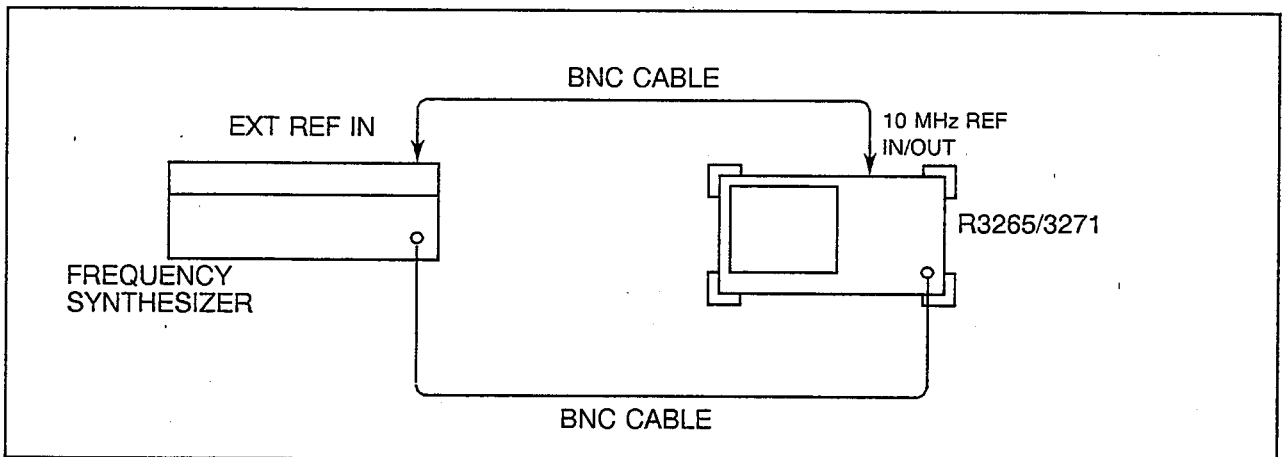

Figure 4-4 Frequency Drift Test Setup
- (1) Connect the equipment as shown in Figure 4-4.
- (2) On the HP3325, set the controls as follows: